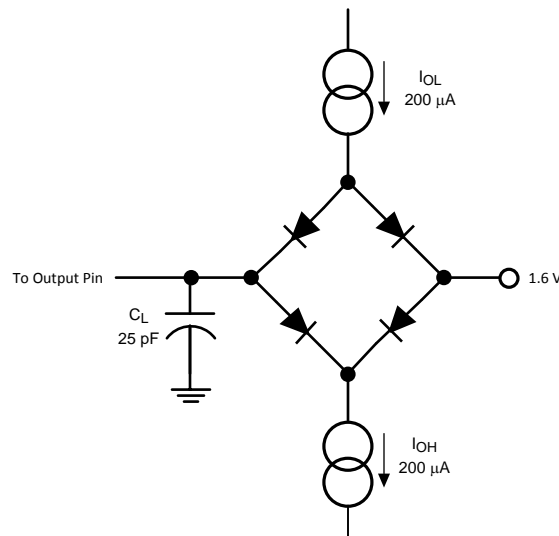

Figure 2. Timing Test Circuit
- (1) Measured with the timing test circuit shown in Figure 2 and defined as the time taken by the output signal to cross $1.0V$.
- (2) Measured with the timing test circuit shown in Figure 2 and defined as the time taken by the output signal to cross $1.0V$ or $2.0V$.
- (3) t_{DIS} is derived from the time taken by the outputs to change by $0.5V$ with the timing test circuit shown in Figure 2. The measured number is then adjusted to remove the effects of charging or discharging the output capacitance. This means that t_{DIS} is the true bus relinquish time, independent of the bus loading.